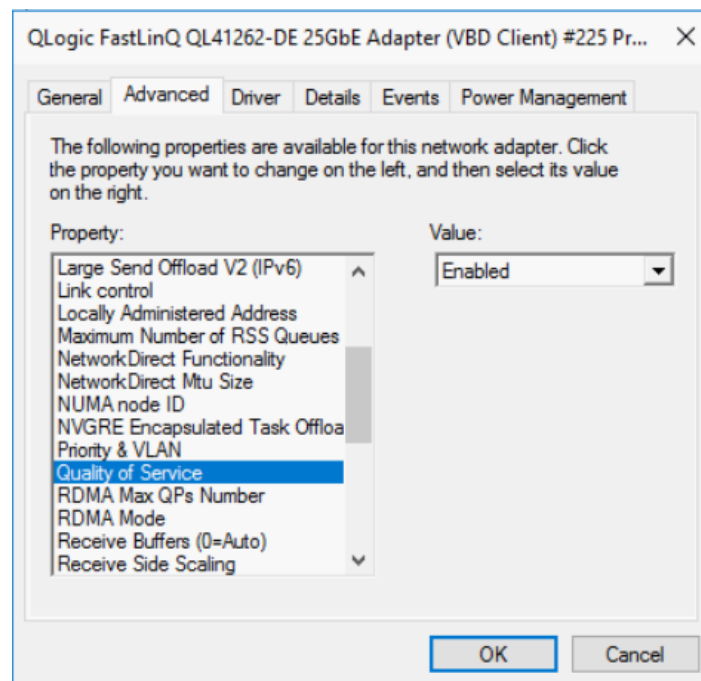

Figure 15-9. Advanced Properties: Enable QoS
- b. On the adapter properties' Advanced page (Figure 15-9) under **Property**, select **Quality of Service**, and then set the value to **Enabled**.